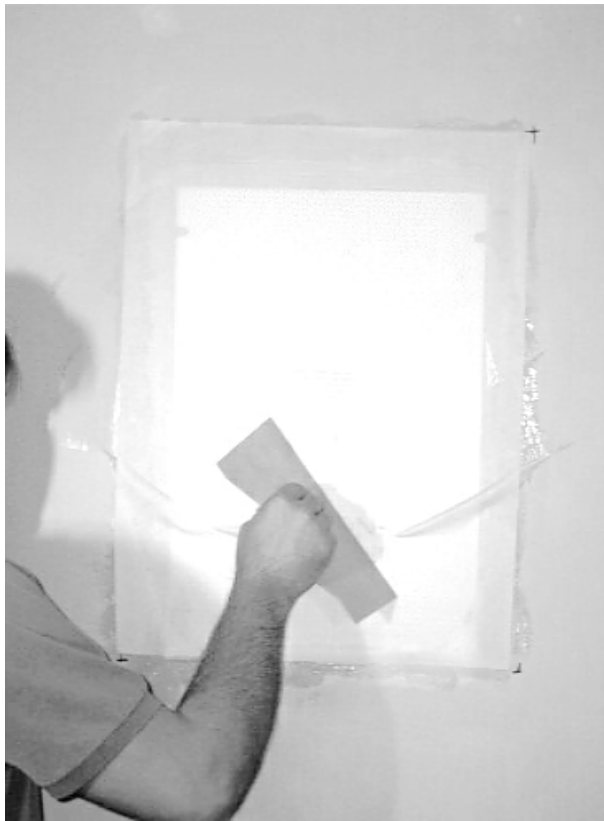

fig. 25
11. Immediately after contact, remove wrinkles and excessive adhesive using a plastic smoother or squeegee. Start from the center of the Overlay and proceed to the outside edges. Apply sufficient pressure to displace the excess adhesive, being careful not to tear the overlay or damage the loudspeaker surface. (please see fig. 25)